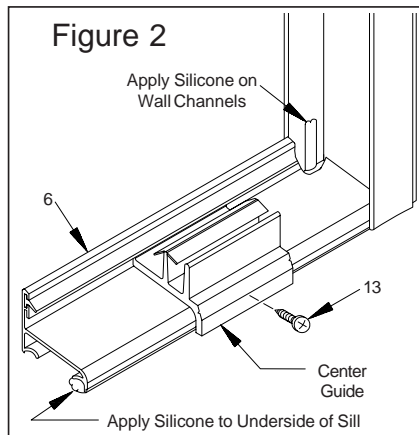

Figure 2
- Set wall channel (21) onto curb channel, hold plumb and mark screw hole locations. Remove wall channel and drill 3/16" holes and insert plastic anchors (2). Fill curb channel with silicone where curb channel meets wall and set wall channels in place. Secure wall channel using #8 x 1 1/2" SMS (3). Secure header clip (23) to inside leg of wall channel with a #6 x 1/4" screw (25).
- Place glass support blocks (24) in place in curb channel. Set panel (26) in place in curb channel and wall channel.
- Insert clip (22) into curb channel and apply a layer of silicone to curb where 90 post will set. Set corner post (19) in place over edge of panel glass and curb clip, hold plumb and insert vertical seal vinyl (27) into post and curb channel on both sides of panel glass.
- Measure from inside of wall jamb to inside of 90 post and use this measurement to cut sill (6) to length. Run a bead of silicone full length to underside of sill and apply silicone in corners where wall jamb and corner post meet curb and press guide firmly into place on curb (See Figure 2).
- Assemble header (8) using 90 clips (28) and #6 x 3/8" SMS (13). Measure from both walls to outside corner of corner post (plumb in both directions) and add 3/16" to this measurement for header length. Cut header to length and set in place over jamb (1), corner post (19) and wall channel (21). Secure header to jamb and corner post from inside of shower and to clip (23) attached to wall channel with #6 x 3/8" SMS.
- To set slider glass in place, hold inside slider panel (16) inside of tub or shower pan, insert rollers up into header and lower into place. Next, insert lower end of outside slider (17) in front of